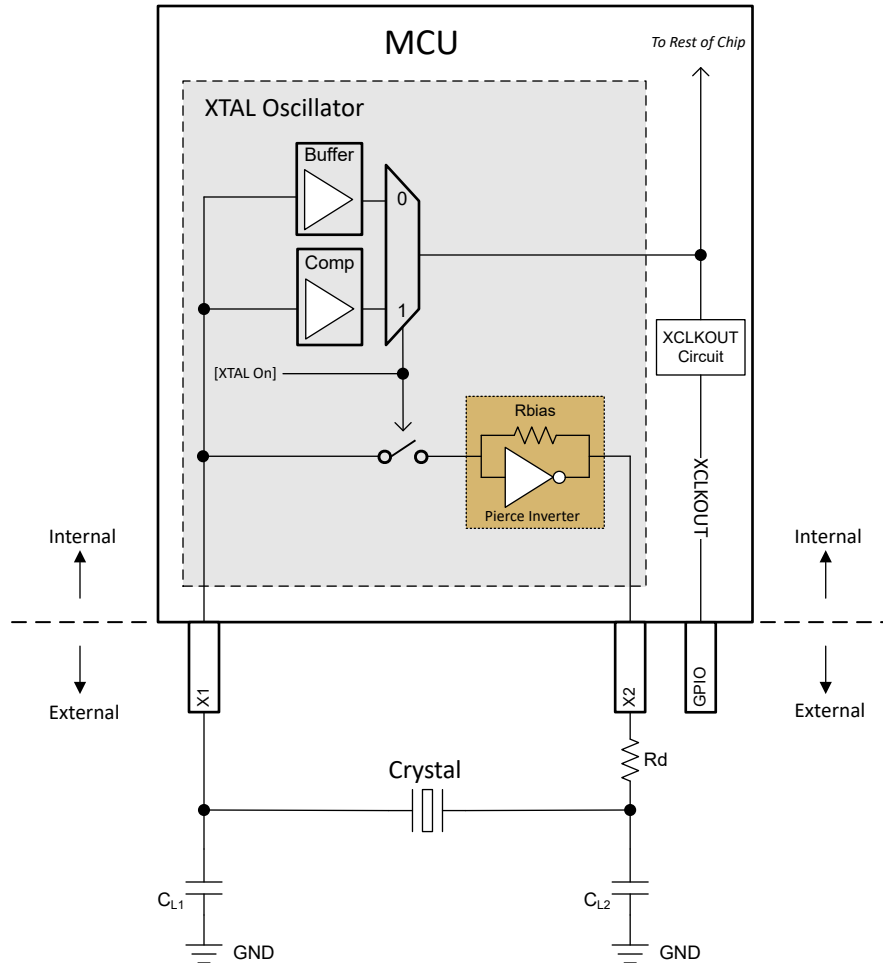

Figure 6-13. Electrical Oscillator Block Diagram
The electrical oscillator in this device is a Pierce oscillator. It is a positive feedback inverter circuit that requires a tuning circuit in order to oscillate. When this oscillator is paired with a compatible crystal, a tank circuit is formed. This tank circuit oscillates at the fundamental frequency of the crystal. On this device, the oscillator is designed to operate in parallel resonance mode due to the shunt capacitor (C0) and required load capacitors (CL). Figure 6-13 illustrates the components of the electrical oscillator and the tank circuit.
From Figure 6-13, CL_1 and CL_2 are in series; so, to find the equivalent total capacitance seen by the crystal, the capacitance series formula has to be applied which simply evaluates to $[CL_1]/2$ if $CL_1 = CL_2$.